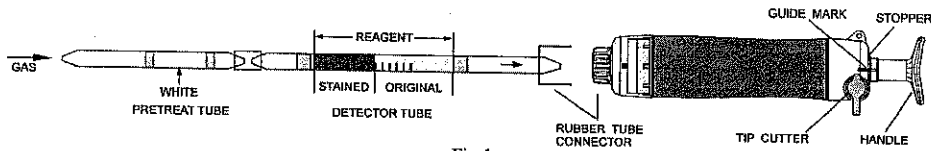

Fig.1
- ① Break both ends of detector tube and pretreat tube, and connect each end of the detector tube and pretreat tube with rubber tube connector as shown in Fig.1.
- ② Insert the detector tube (with connecting the pre-treat tube) into aspirating pump securely as shown in Fig.1. (Arrow mark shall point to the pump.)
- ③ Align the guide marks on the shaft and stopper of the aspirating pump.
- ④ Pull the pump handle at full stroke until it locks and wait for 2 minutes or until the completion of sampling is confirmed with the flow indicator of the pump (See descriptions about the flow indicator in the instructions of the pump).
- ⑤ Without removing the detector tube (with connecting the pretreat tube) from the pump inlet, push the pump handle, and air in the pump will be discharged perfectly.
- ⑥ Then, repeat the above step ④ and ⑤ another three times (four times in total).
- ⑦ On completion of sampling, read the scale at the maximum point of the stained layer.
- ⑧ If the discoloration is over the scale, 1 pump stroke (100mL sampling) is available for higher concentrations. Carry out newly from the above ① to ④ once. On completion of sampling, read the at the maximum point of the stained layer. In case of the 1 pump stroke (100mL sampling), the readings should be corrected in accordance with the undermentioned "3. CORRECTION FOR AMBIENT CONDITIONS, (100mL sampling temperature correction table)".